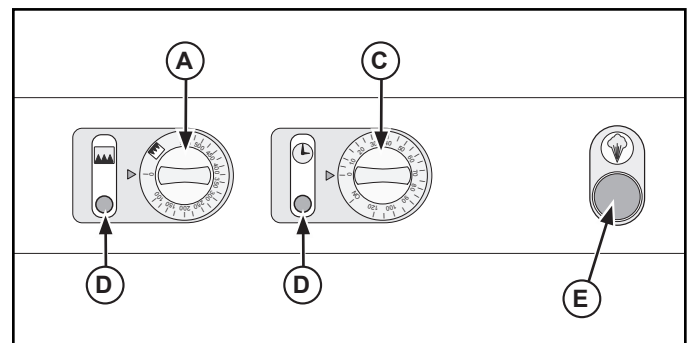

Figure 2. 40702 Controls.
1. Press the mist control button (E) to activate a spray of water into the cooking chamber. See Figure 2. Do not press the button longer than 2-second pulses.